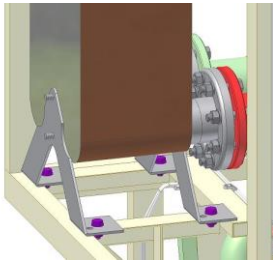

Figure 6.2-5
6. Remove the four M12 screw connections from the base of the heat exchanger (marked violet in Figure 6.2-5).